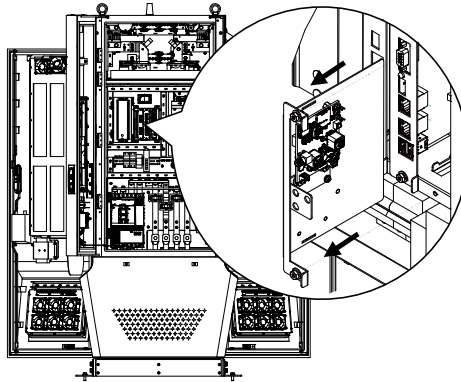

Figure 36. 4G/Wi-Fi Module Access
- 1) Pull out the top tray from the CSU box to access the 4G/Wi-Fi module inside the cabinet. See figure 36.